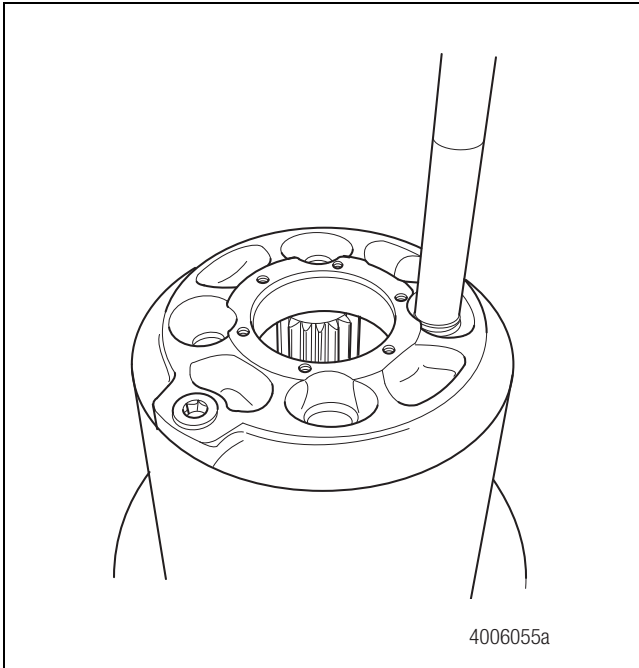

Figure 11.3
4. Use a drift to press the new pinion shafts into the planetary carrier hub housing. The pinion shafts should be seated with enough room to fit the snap rings. Figure 11.3.